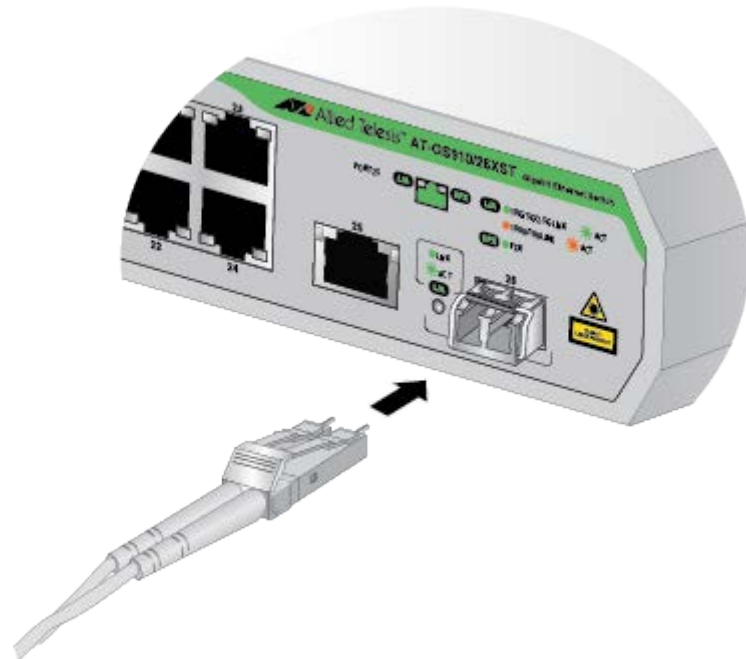

Figure 23. Connecting a Fiber Optic Cable to the SFP Transceiver
4. Connect the fiber optic cable to the transceiver as shown in Figure 23 on page 45.